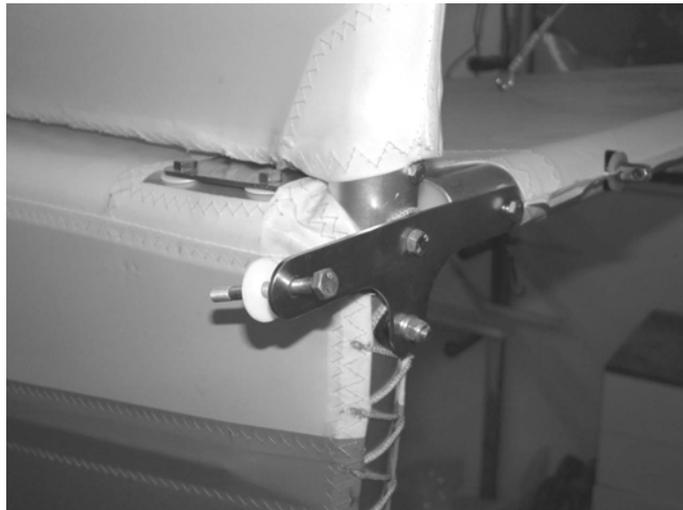
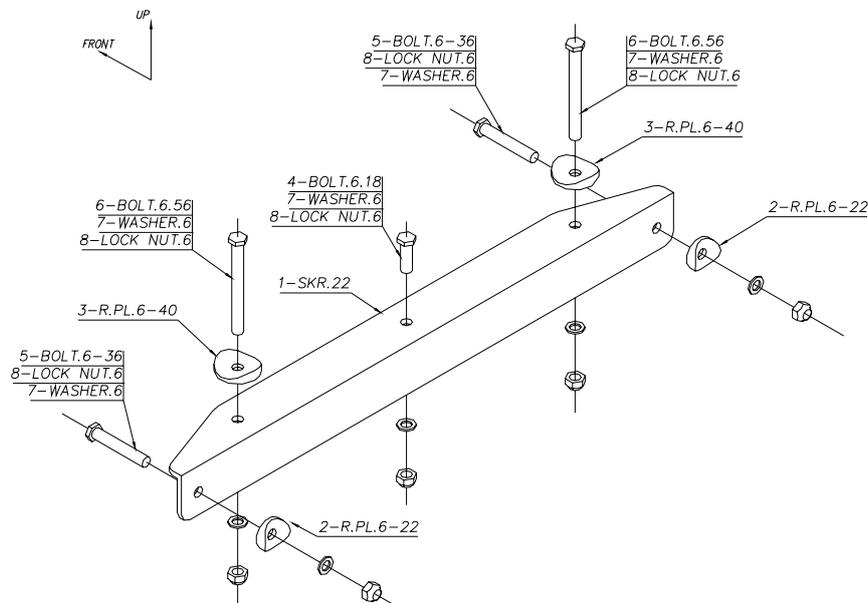

Figure 97; horizontal stabiliser rear mountings.
Figure 98; vertical and horizontal stabiliser front mounting.
- d) Mount the horizontal stabilisers to the forward and rear mounts on the rear fuselage, Figure 97 and Figure 98.